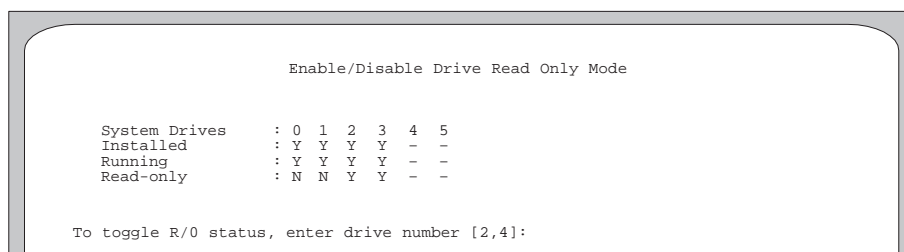

Figure A-23. Example of the Enable/Disable Drive Read Only Mode Screen for a GMR Server.
2. Check the status of all the drives on the Enable/Disable Drive Read Only Mode screen, as shown in the example in Figure A-23. Determine which drives to put in or take out of read-only mode.